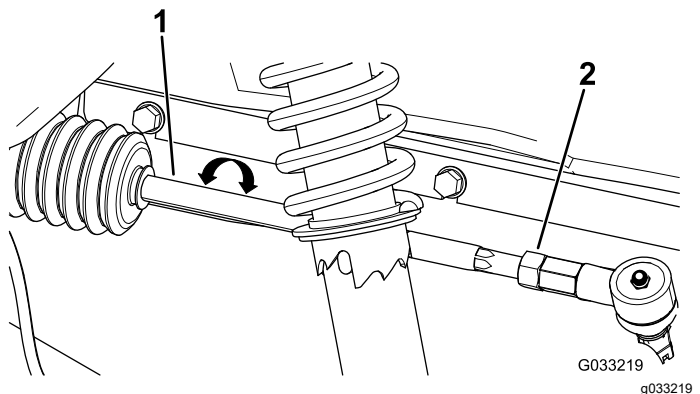

Figure 57
2. If the measurement does not fall within 0 to 6 mm (0 to 1/4 inch), loosen the jam nuts at the outer end of the tie rods (Figure 57).